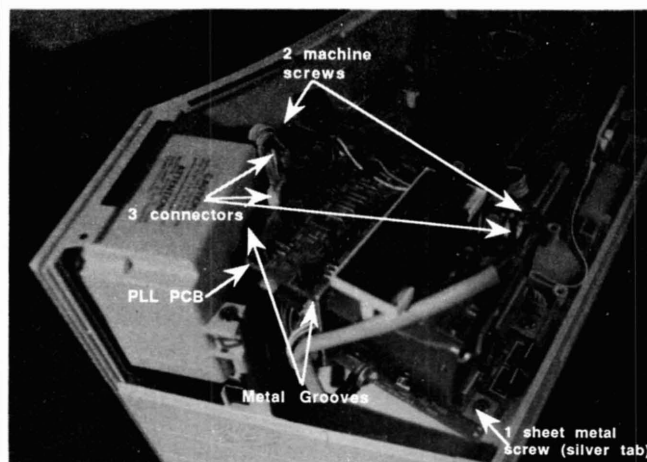

Figure 12
29. PLL PCB Removal (Figure 12)
30. PLL PCB Replacement (Figure 12)